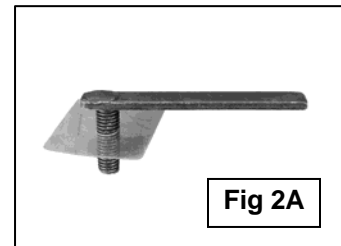

Fig 2A
- Select (2) 10mm Bolt Plates and (2) 10mm Plastic Retainers, **(Figure 2A)**. Partially thread the Retainers onto the Bolt Plates. **NOTE:** The Plastic Retainer is designed to help hold the Bolt Plate in place during Bracket installation.